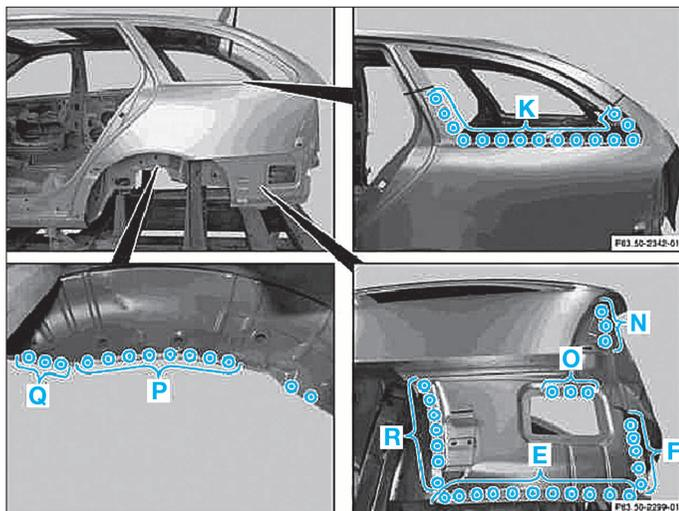

FIG. 97
- zones (E), (F), (K), (N), (O), (P) et (Q) (Fig.97).